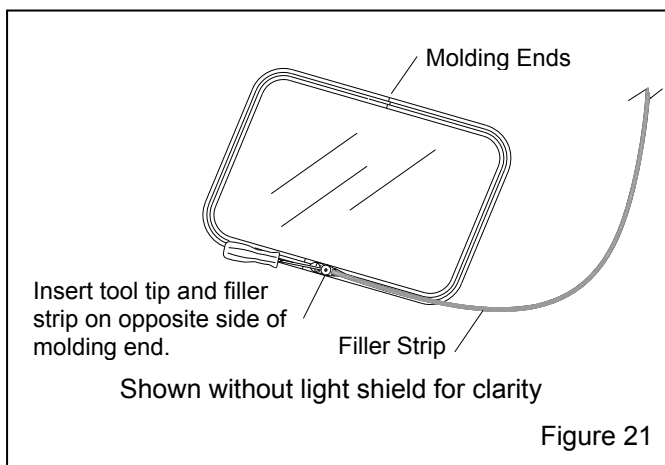

Figure 21
6.4.10 Insert the tool tip and filler strip into the filler strip channel of the molding, at the opposite side of the opening from the window molding ends, as shown in Figure 21. The rounded side of the filler strip faces up.
6.4.11 Hold short end of the filler strip and feed the strip into the channel by pushing the tool through the top of the channel, as shown in Figure 21. Rotate the tip as needed, if the light shield or other obstructions interfere with moving the installation tool around turns. Continue